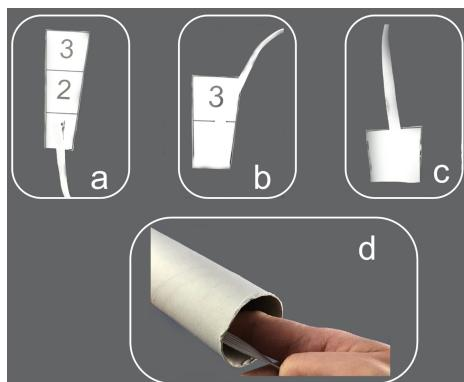

Figure 9.29 – Installing the shock cord
2. Glue one end of the elastic cord to section 1 of the cutout (*Figure 9.29 a*).
3. Fold section 1 onto section 2 (*Figure 9.29 b*).
4. Put glue on section 3 and fold the mount in half (*Figure 9.29 c*).
5. Allow to dry before gluing the mount inside the paper tube at the opposite end of the motor mount (*Figure 9.29 d*):